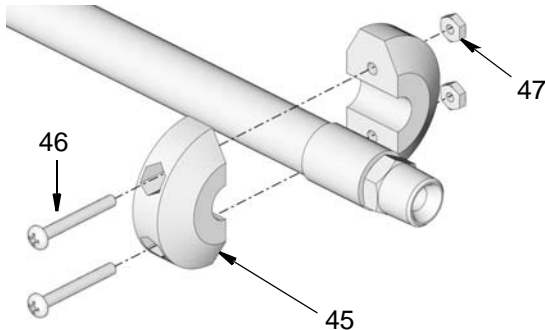

FIG. 52
- a. Position each half of the stop (45) near the outlet end of the hose (FIG. 52).
- b. Thread screws (46) through holes in stop pieces (45).
- c. Tighten nuts (47) until the outside edges of the stop contact each other.